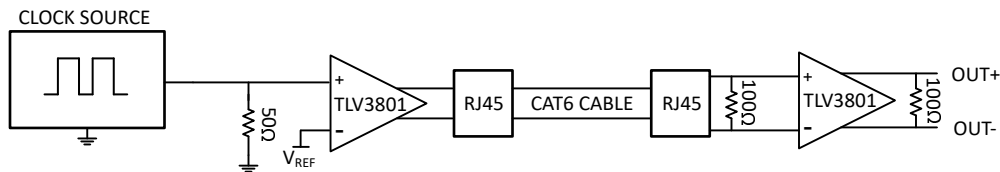

图 8-5. LVDS Clock Transceiver
The 图 8-5 shows a logic clock source being terminated and driven with the TLV3802/TLV3811(C) across a CAT6 Cable to receive an equivalent LVDS clock signal at the receiver end.